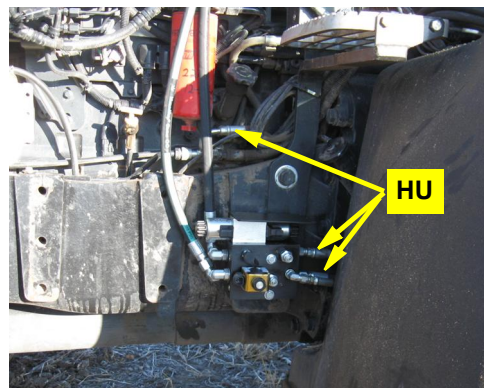

Figure 7b: Steering hoses routed to and installed at the steering block
- b. Connect the steering hoses **HU** to adapters **HD** (not visible) in the A and B ports of the hydraulic steering block (Figure 7b and Figure 8).